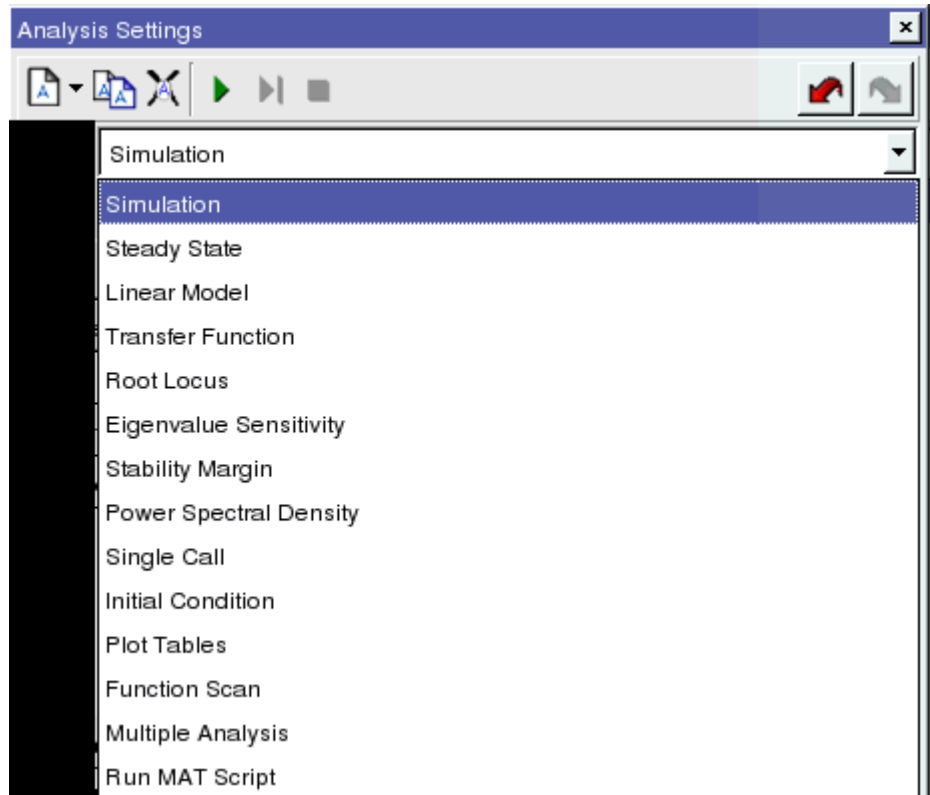

Figure 5 Analysis Data Form Options
1. The level and title of the model opened, such as Top Level - blade\_pitch\_4, shown in Figure 5 under submodel.
2. The analysis type, such as Simulation, Steady State, Linear Model, Transfer Function, Root Locus, and so on as shown in Figure 5.
Figure 5 shows an example of a copied analysis (simulation\_copy) and a new analysis (simulation1) in addition to the original analysis settings file (simulation).